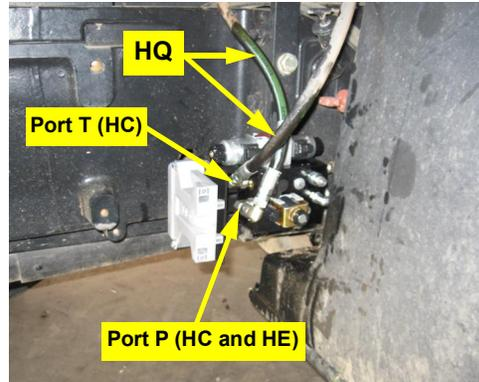

Figure 9c: Connected tank and pressure hoses
- c. Connect the hoses **HQ** from the **P** and **T** ports on the orbital to their respective **P** and **T** ports on the hydraulic steering block. Connect the **T** hose to adapter fitting **HC** and the **P** hose to adapter fitting combination **HC/HE** (Figure 9c).